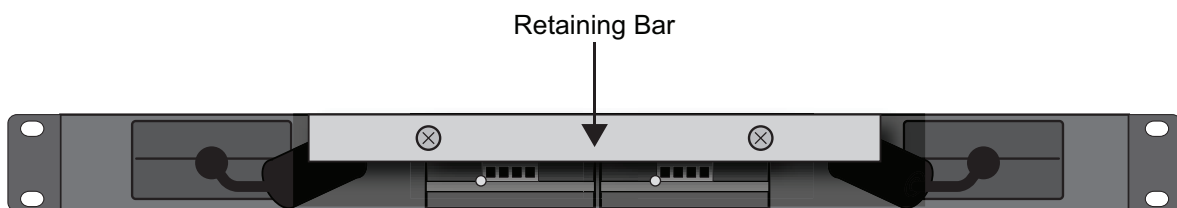

Figure 3.6 NK-RP1 Series — Door Removed from Chassis
6. Note the location of the Power Supply Retaining bar (**Figure 3.6**). You will need to remove it before accessing the power supplies inside the chassis.